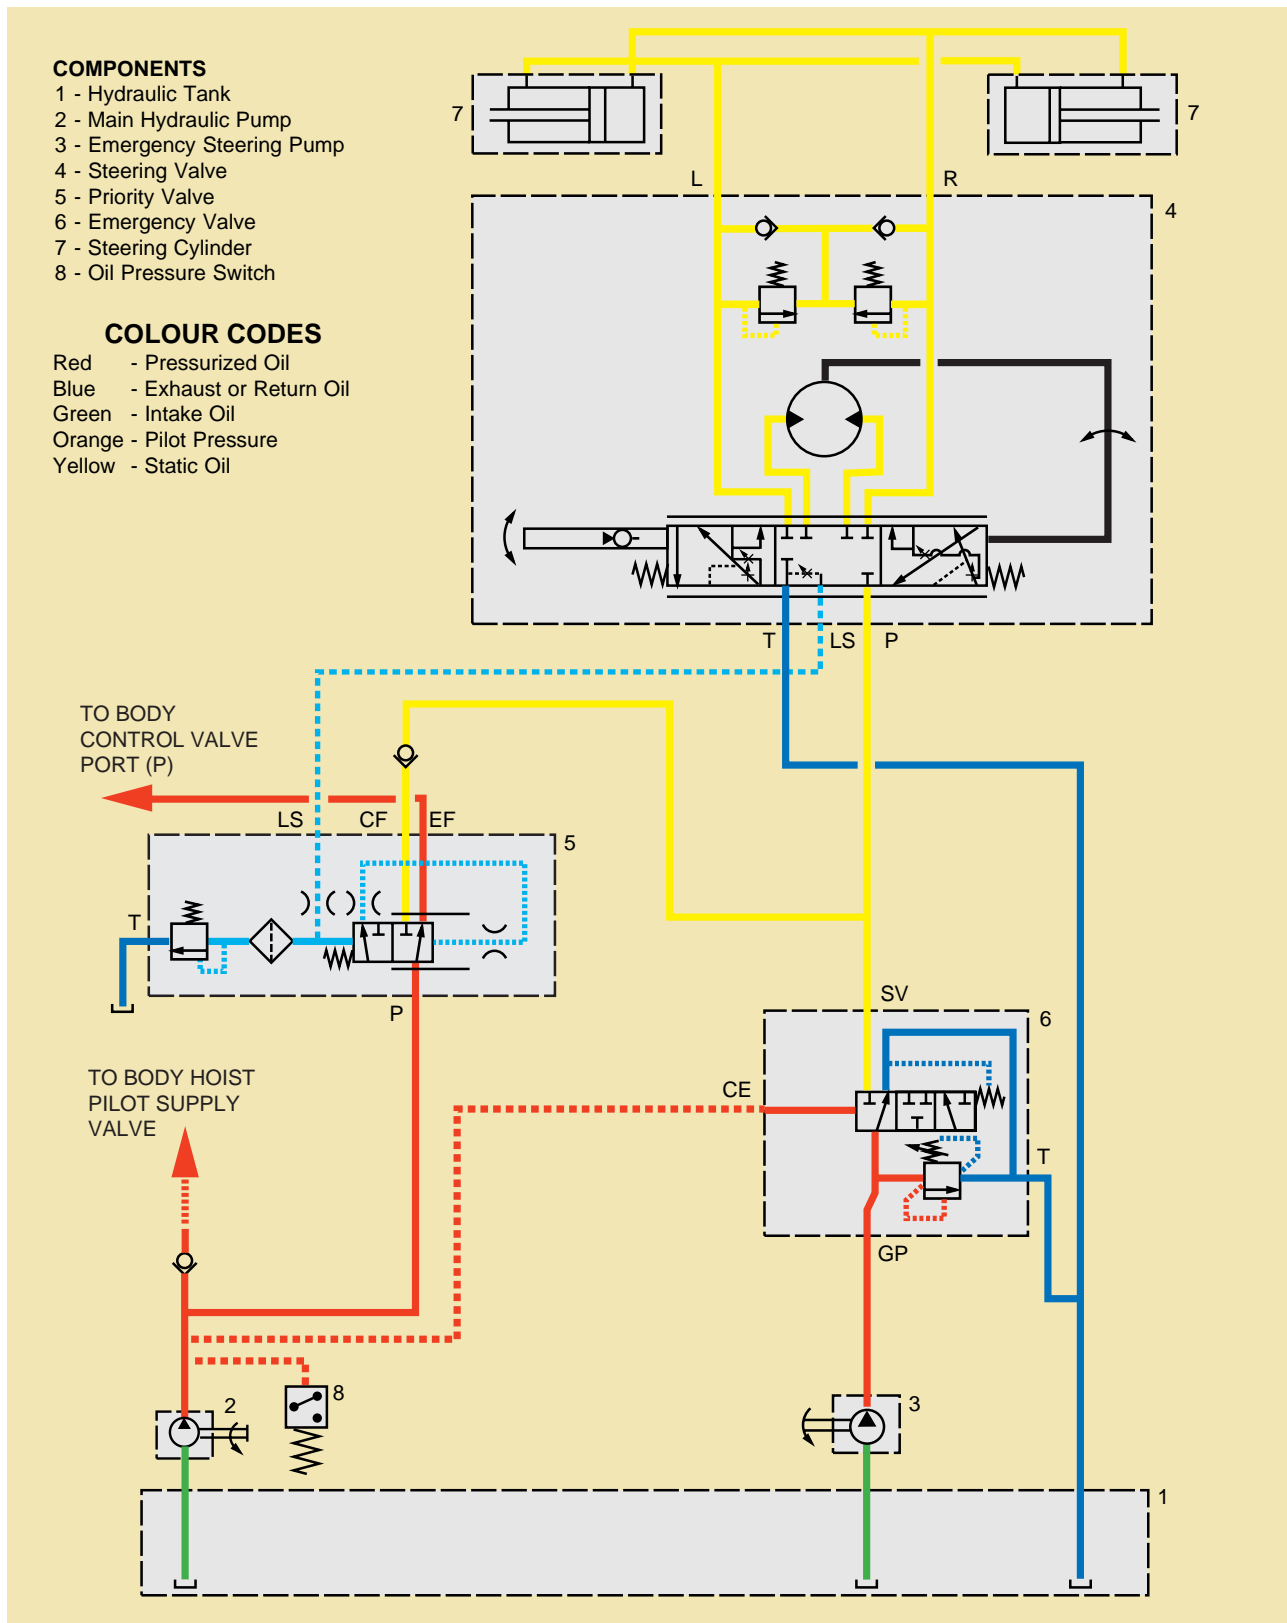

Fig. 2 - Steering System Schematic Diagram - Engine Running, Steering Valve Neutral
Numbers in parentheses refer to Figs. 2 through 5.
Turning action of the steering wheel is transmitted through the steering column to sleeve (8) and driveshaft (6), which is fastened to the sleeve with centring pin (10). Rotation of driveshaft (6) causes gerotor gear (19) to rotate in gerotor housing (4). When gerotor gear (19) rotates, oil in gerotor housing (4) pockets (see Fig. 2) is forced out and flows through spool (16) and sleeve (8) to the steering cylinder port.
Oil from the priority valve flows into valve housing (7) at port 'P' and is channelled through sleeve (8) and spool (16) to gerotor housing (4). Porting in gerotor housing (4) permits oil to flow into pockets formed by gerotor housing (4) and gerotor gear (19). As spool (16) rotates, driveshaft (6) also rotates which, in turn, rotates gerotor gear (19) to which it is splined. When gerotor gear (19) rotates it progressively forces oil out of the pockets (see Fig. 2) of gerotor housing (4). The oil is channelled through sleeve (8) and spool (16) and exits valve housing (7) through port 'R' for a right hand turn, or port 'L' for a left hand turn. Oil then travels through steering lines to the steering cylinders.